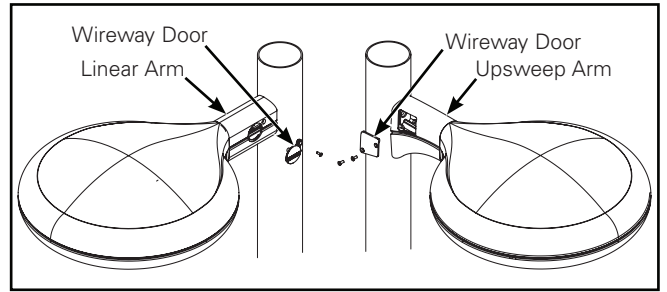

Figure 4.
Electrical Connections (Figure 4.)
1. Make the fixture connections in the arm. Insert wires into the arm and reinstall the wire way door as shown. (Figure 4).